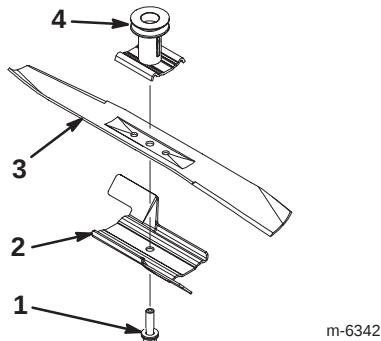

Figure 27
2. Remove the blade bolt, the accelerator, and the blade (Fig. 27).
1. Install a sharp, balanced Toro blade, the accelerator, and the blade bolt (Fig. 27).